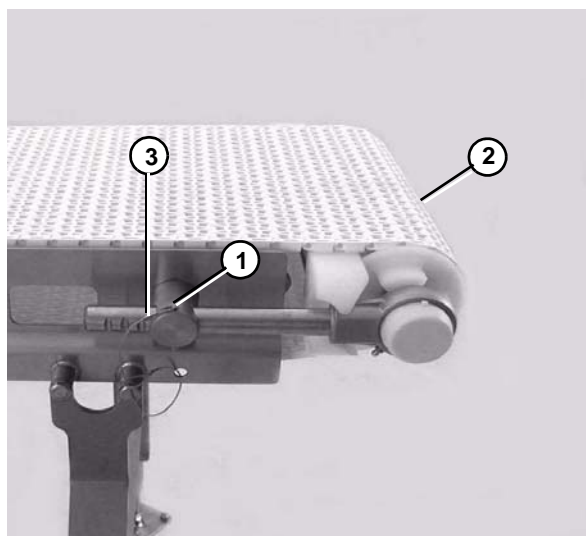

Figure 53
1. Remove both pull pins (**Figure 53, item 1**). Place tip up idler tail in the down position (**Figure 53, item 2**).
2. Extend the idler tail to the next groove (**Figure 53, item 3**) on the bearing shaft.